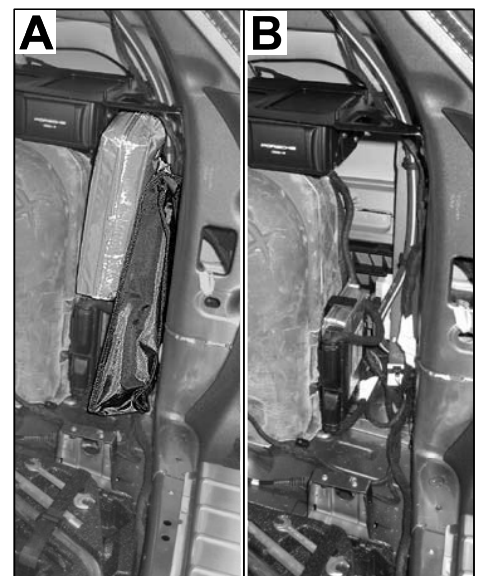

Figure 3
1.5 Remove warning triangle and first-aid kit in the rear right wheel arch area ⇒ *Figure 3-B-*.